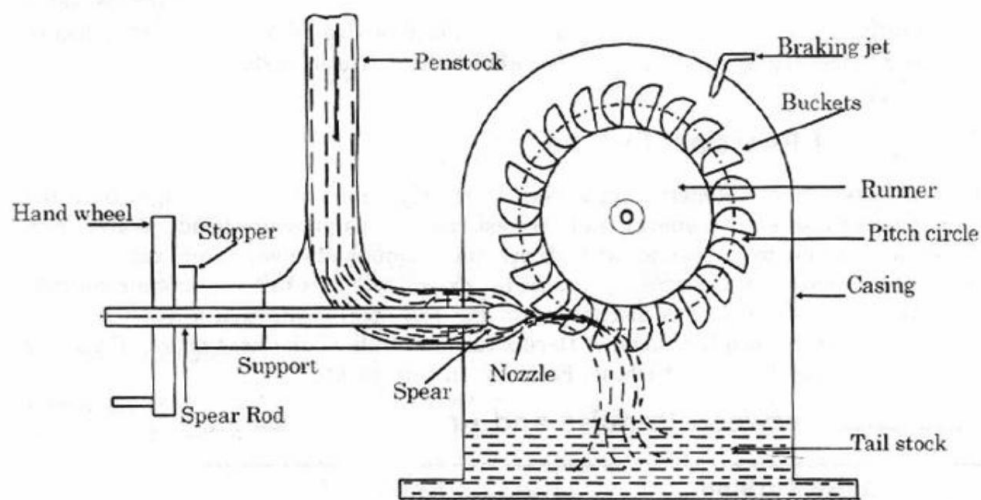

Figure 1- Schematic Diagram of Pelton wheel
- The quantity of water that strikes the buckets is controlled by spear. The spear is installed inside the nozzle and regulates the flow of water that is going to strike on the vanes of the runner. A nozzle containing spear is shown in the figure 1.